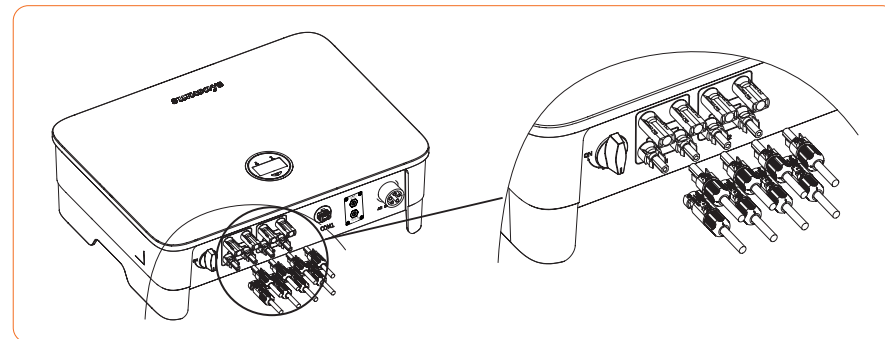

Figure 4-18
① Before assembling the DC connector, make sure that the cable polarity is correct.
② Use a multimeter to measure the voltage of the DC input string, verify the polarity of the DC input cable, and ensure that each string voltage is within 1000V.
3. Insert the positive and negative connectors into the inverter DC input terminals respectively, a click sound should be heard if the terminals are well connected, as shown in Figure 4-18: